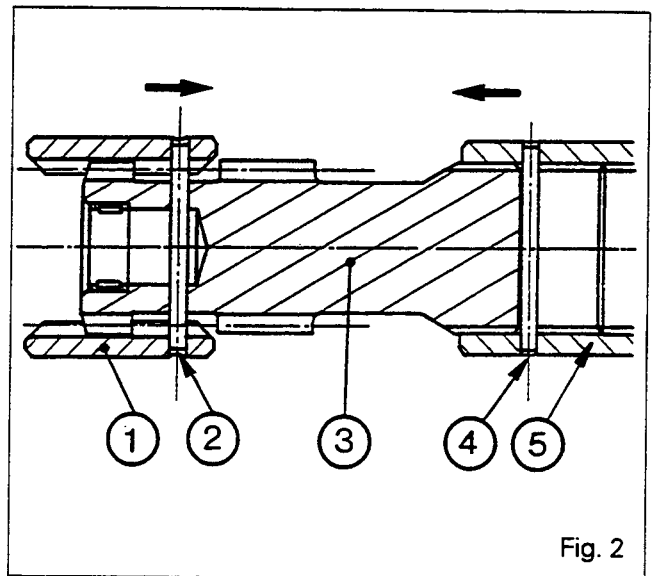

Fig. 2
8. Drive out the double pins (2) and (4) of the coupling sleeves (1) and (5). Slide the sleeves towards each other on the pin (3).
- Remove the pin and sleeve assembly (Fig. 2).
9. Remove the circlip (1).
10. Remove the pinion (2) (if fitted).